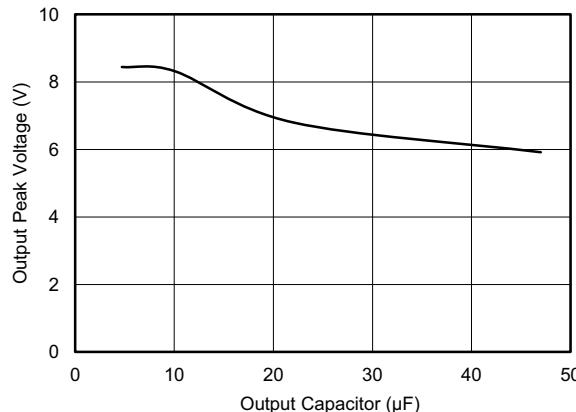

Figure 16. V_{OUT} Peak Voltage vs C_{OUT}
When V_{IN} ramp up exceeds 7.6 V, V_{OUT} follows V_{IN} until the TPS25200-Q1 device turns off the internal MOSFET after $t_{(OVLO_off_delay)}$. Because $t_{(OVLO_off_delay)}$ largely depends on the V_{IN} ramp rate, V_{OUT} receives some peak voltage. Increasing the output capacitance can lower the output peak voltage as shown in Figure 16.
- For output capacitance, see Figure 16. A low-ESR ceramic capacitor is recommended.